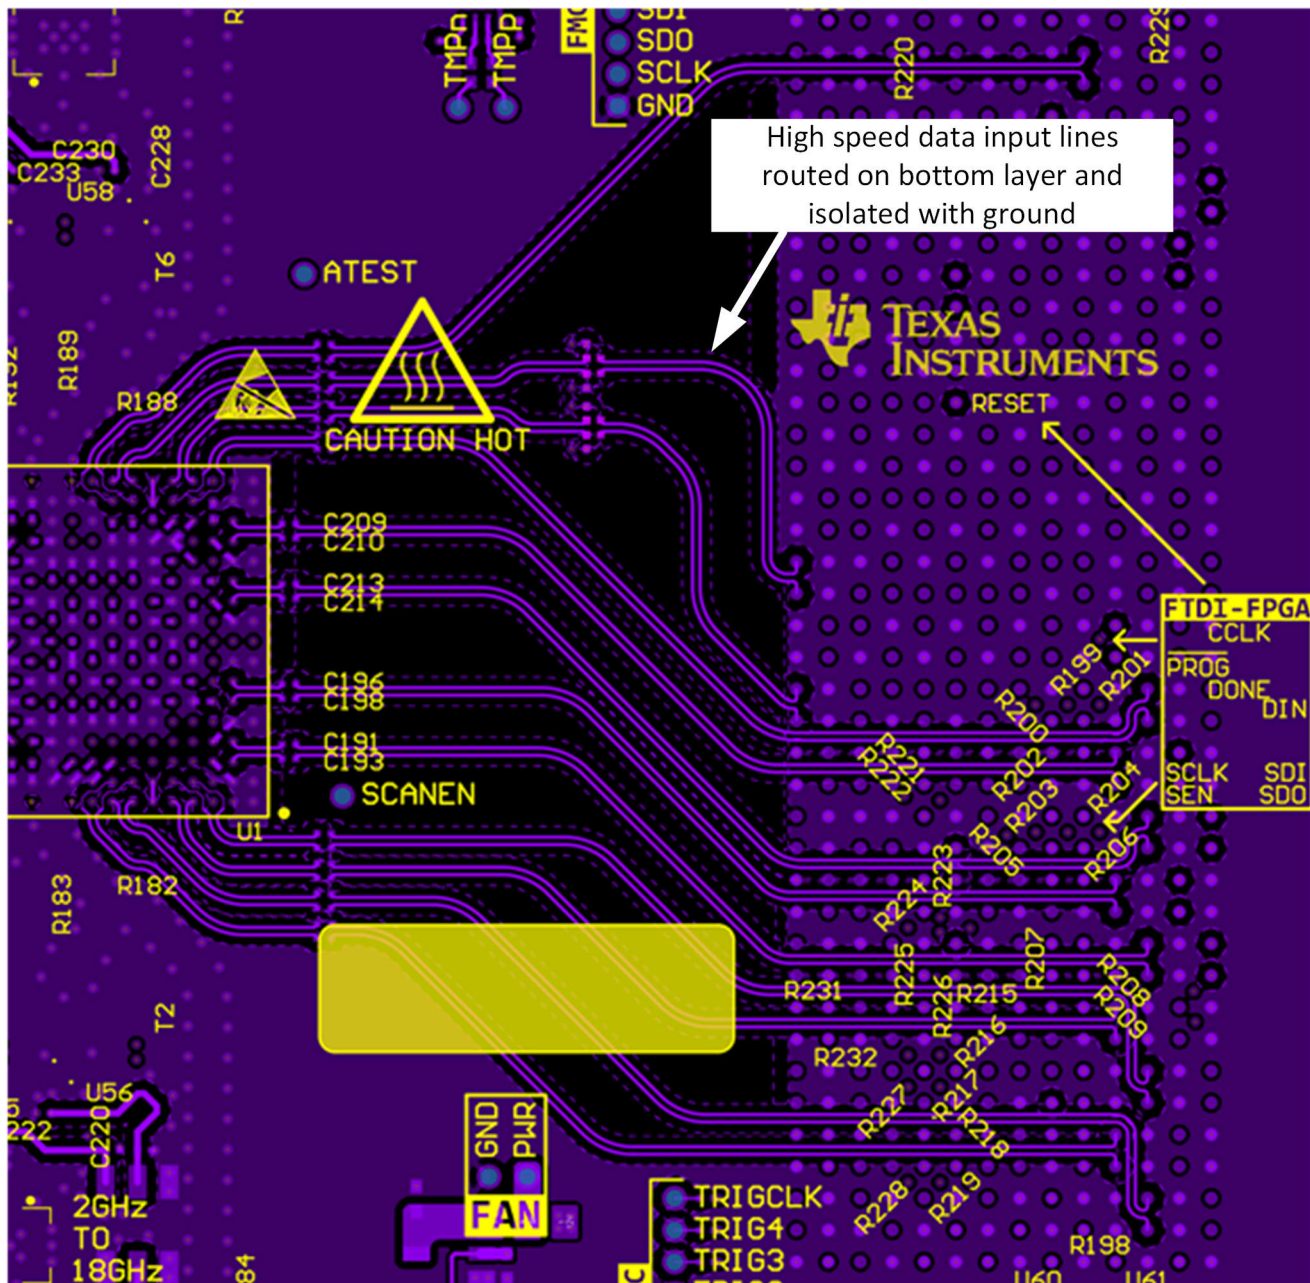

Figure 9-14. Serdes Bottom Layer Routing with Ground Isolation
9. Pay particular attention to potential coupling between JESD204x data input routing and the analog output routing. Switching noise from the JESD204x inputs can couple into the analog output traces and show up as wideband noise due to the high bandwidth of the DAC. Route the Serdes JESD204x data inputs on a separate layer, if possible, from the DAC output traces to avoid noise coupling, see Figure 9-13 and Figure 9-14 as examples.